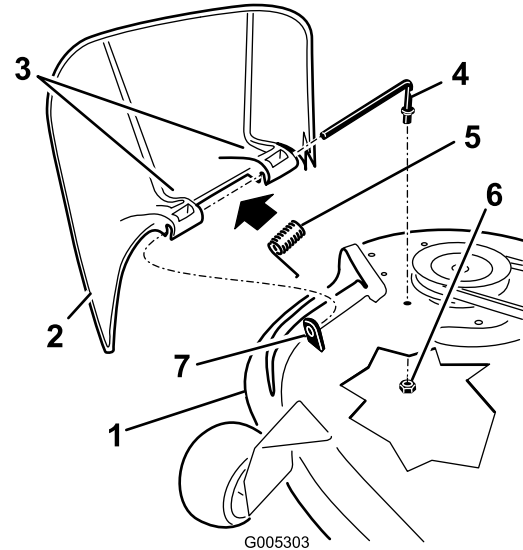

Figure 60
- Remove the nut (3/8 inch) from the rod under the mower (Figure 60).
- Slide the rod out of the short standoff, spring, and the grass deflector (Figure 60).
- Replace the grass deflector (Figure 60).
- Slide rod through the second grass-deflector bracket (Figure 60).
- Secure the rear end of the rod into the mower with a nut (3/8 inch) as shown in Figure 60.